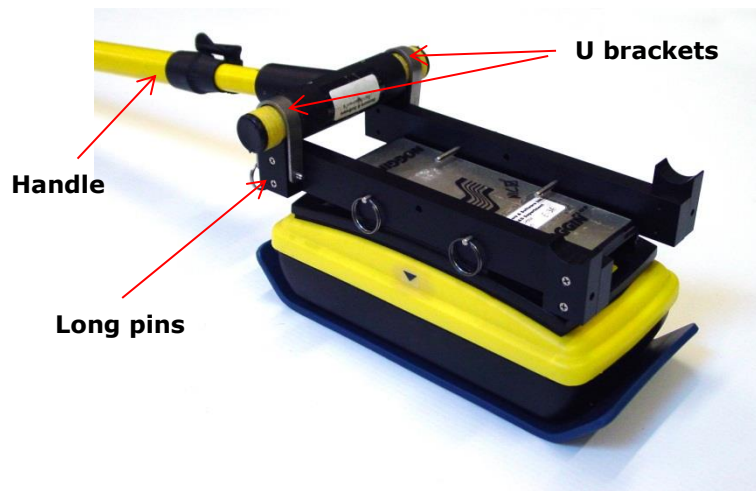

Figure 2-51: Attaching handle to one end of the brackets
5. Attach the handle to the front of the SmartTow Brackets using the U-brackets and long pins (Figure 2-51). Make sure the handle is attached to the end of the Noggin opposite the 37 socket cable connection.